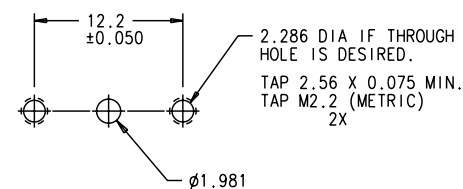

Figure 2. Mounting-Hole Dimensions for the K103 Flange Mount
- Drill the hole as shown in Figure 2 for the 6.10 mm wall thickness.
- Tap the two or four mounting holes as shown in Figures 2 and 3.